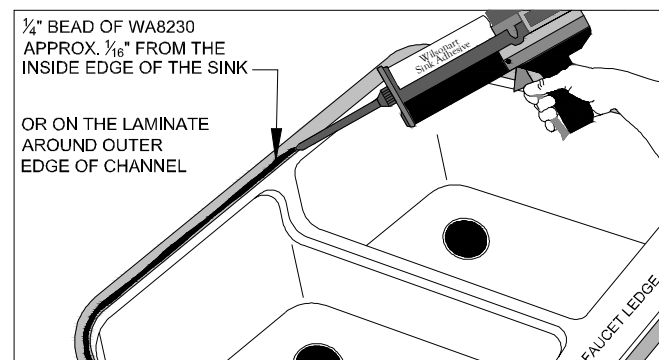

Figure 11C
- Apply the Sink Adhesive to the sink flange. (FIG. 11C)